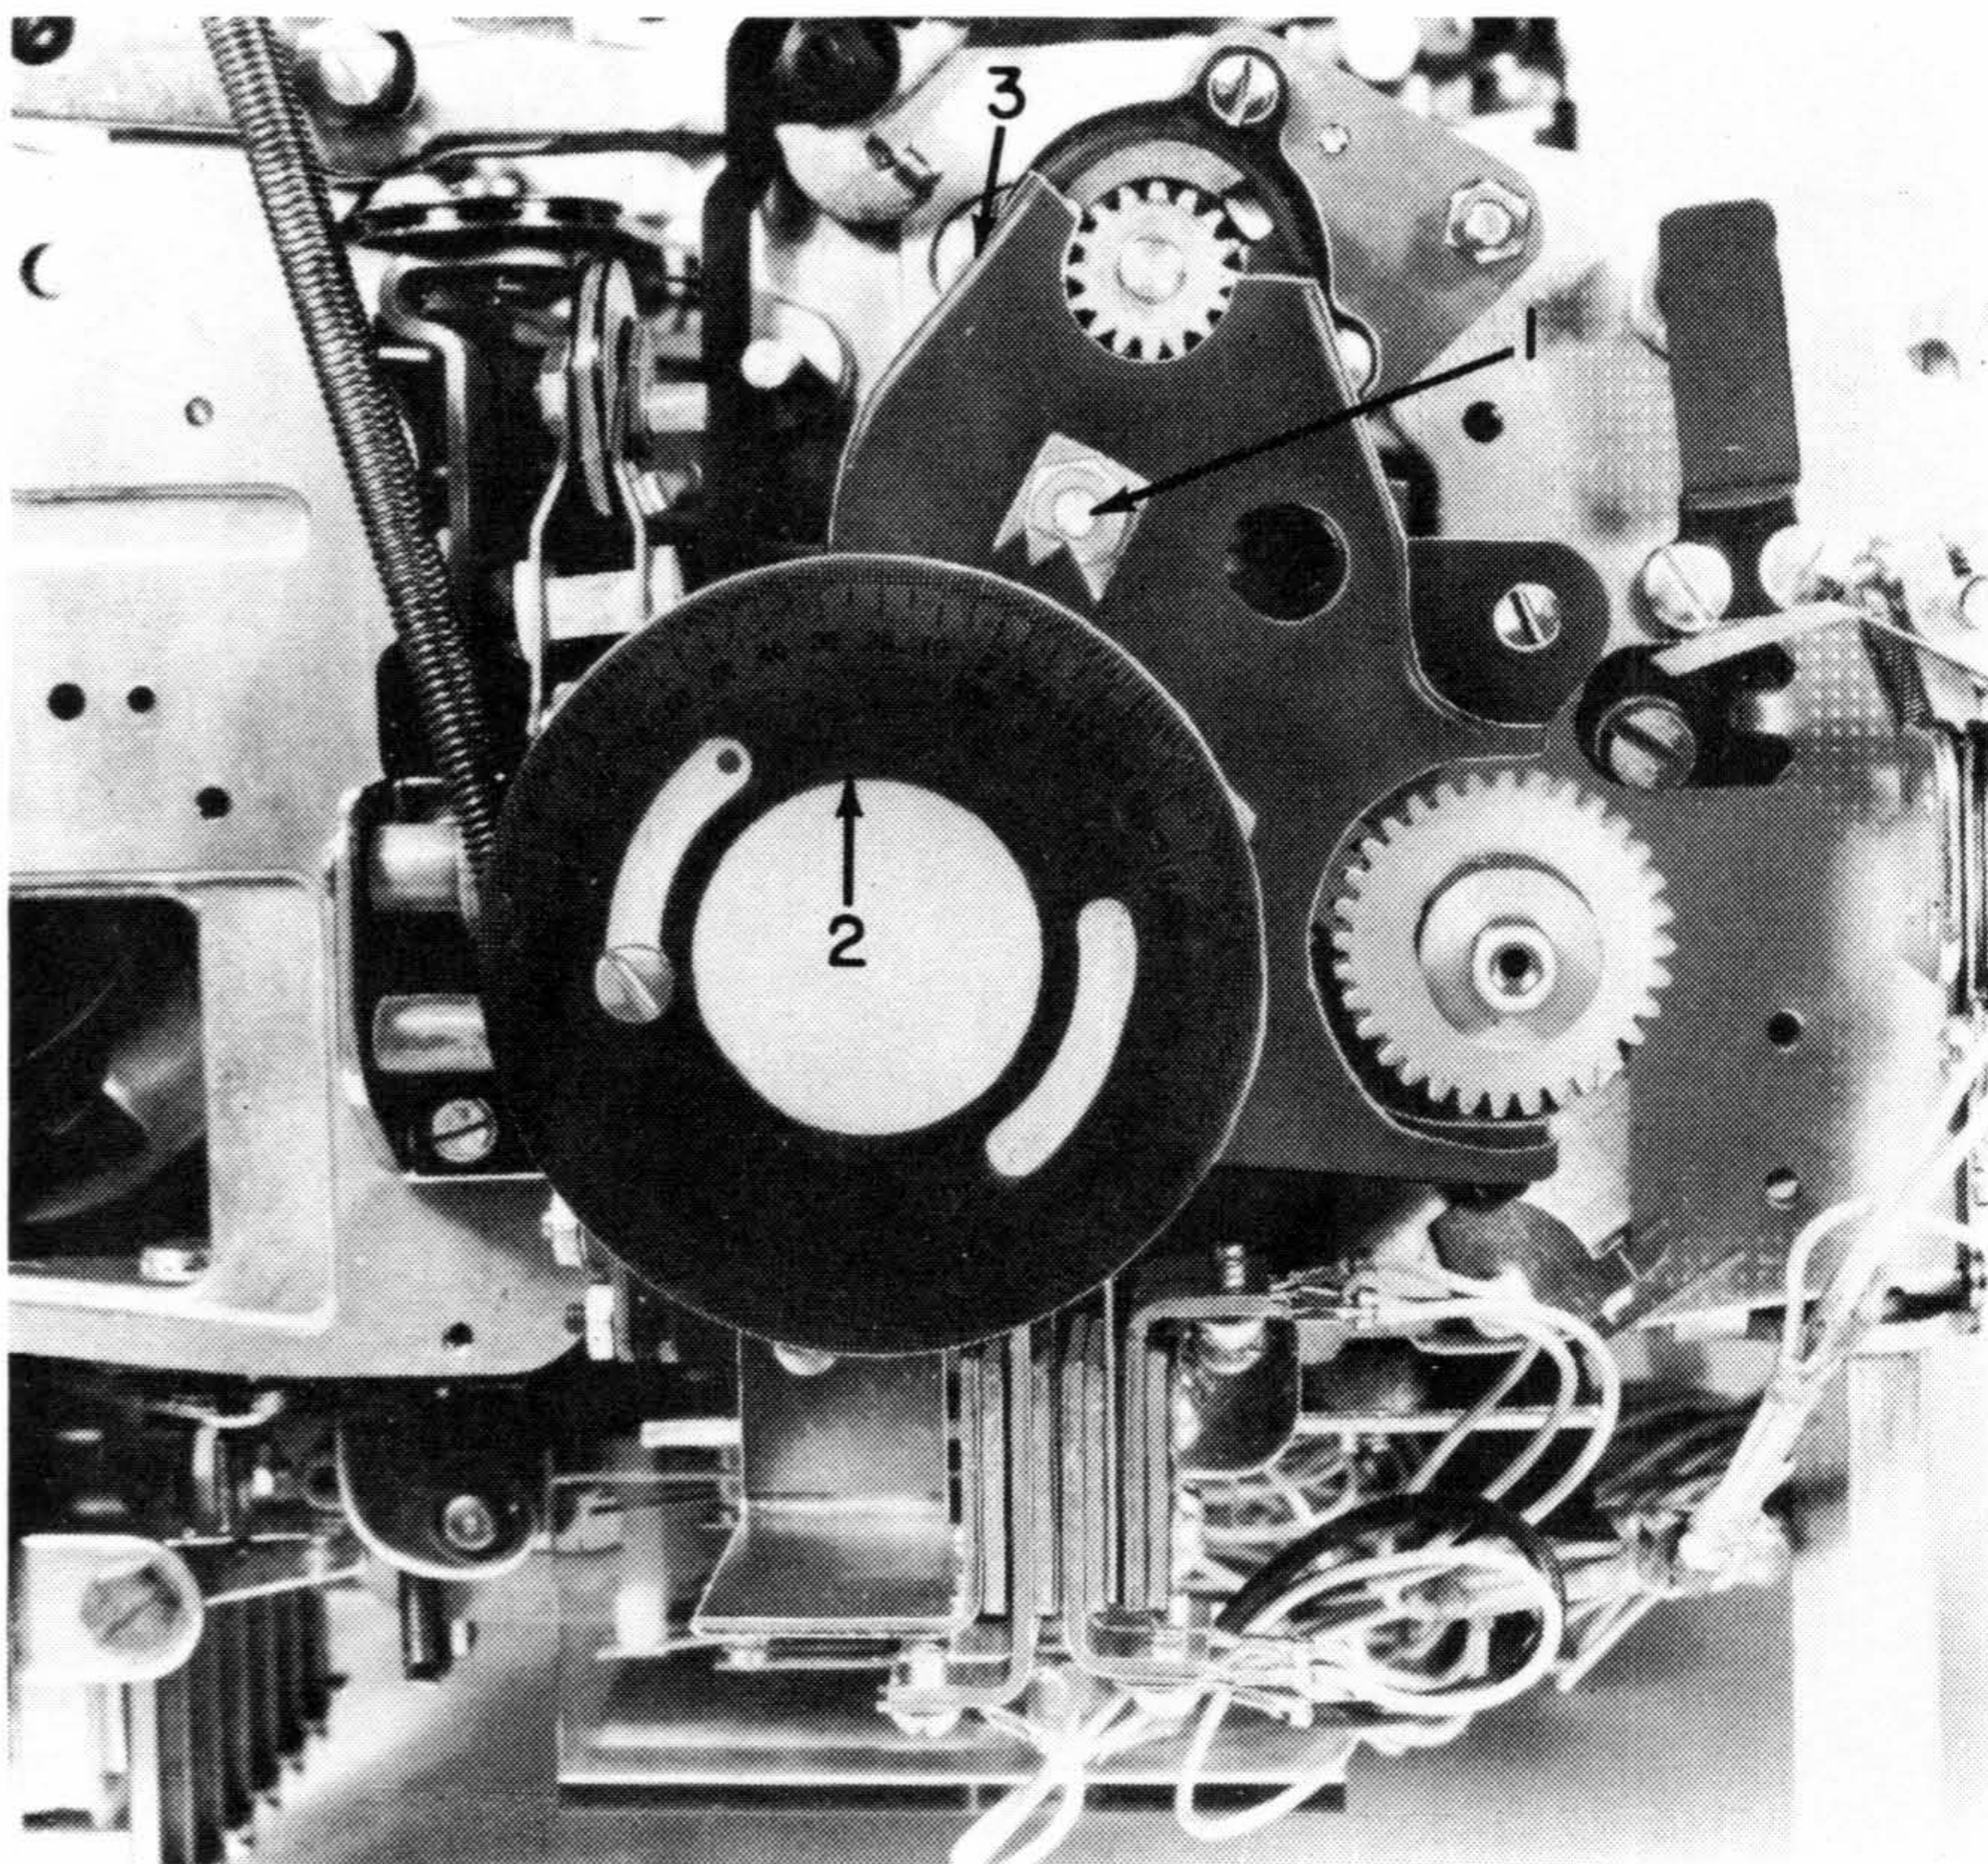

Figure 1. Cycle Clutch and Cycle Shaft Removal
3. Remove the degree wheel pointer (#1, Figure 1).
4. Remove the degree wheel (#2, Figure 1).
5. Remove the gear guard (#3, Figure 1).